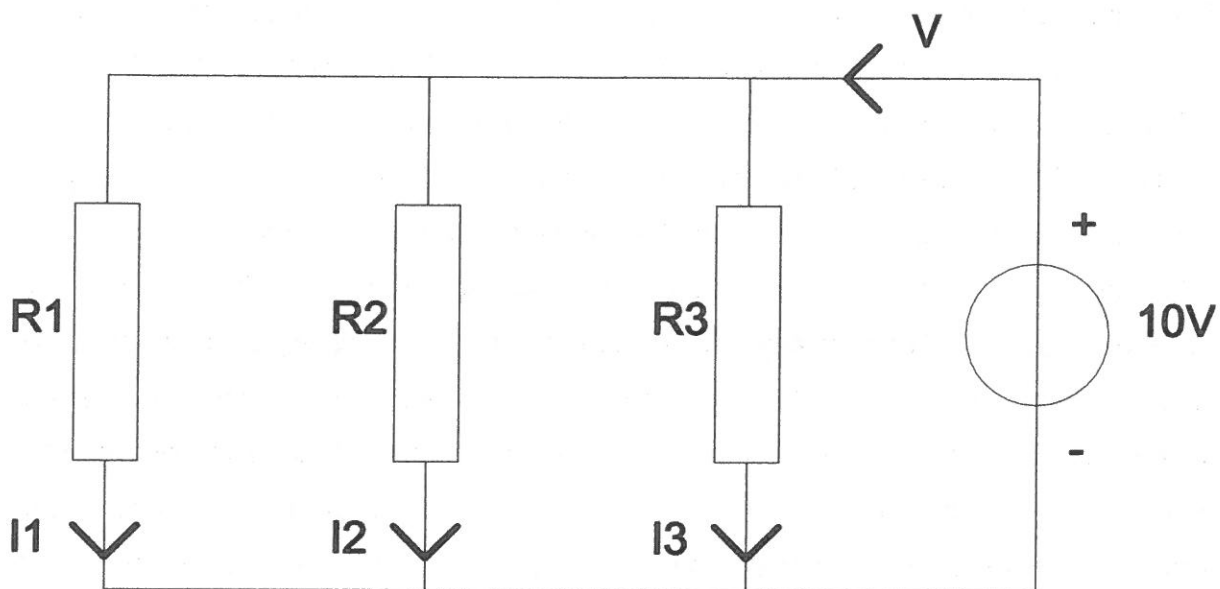

Figure 2 – Parallel Circuit Configuration
2. Figure 2 shows a circuit containing three capacitors in series/parallel to a d.c. voltage source.